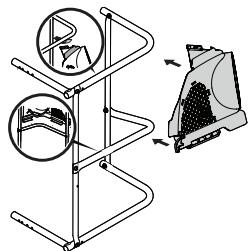

Figure 7
8. Snap bag vent (731-12351B) in place by rotating and placing the upper tab as shown in Figure 7, then clipping the bottom portion onto the bag vent mount tube (see lower inset, Figure 7).